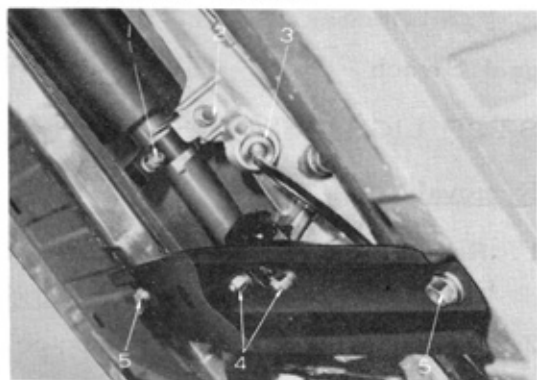

Fig.3-17 Engine Rear Support Member Removal V0290
9. Remove the exhaust pipe support bracket and clamp attaching bolts (1), (2) in referring the figure 3-17.
10. Disconnect the speedometer drive cable(3) from the transmission extension housing in referring to the figure 3-17.